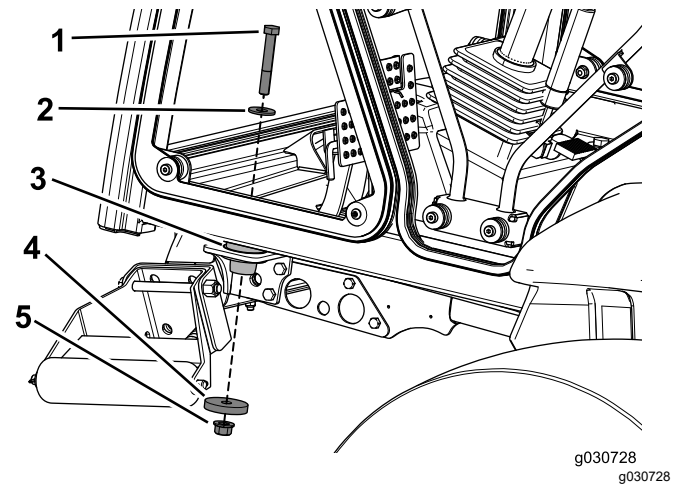

Figure 29
5. Use a bolt (1/2 x 3-1/4 inch), washer (1-3/8 inches), washer (2-1/4 inches), and locknut (1/2 inch) to secure the cab to the front mounts on the machine (Figure 29).